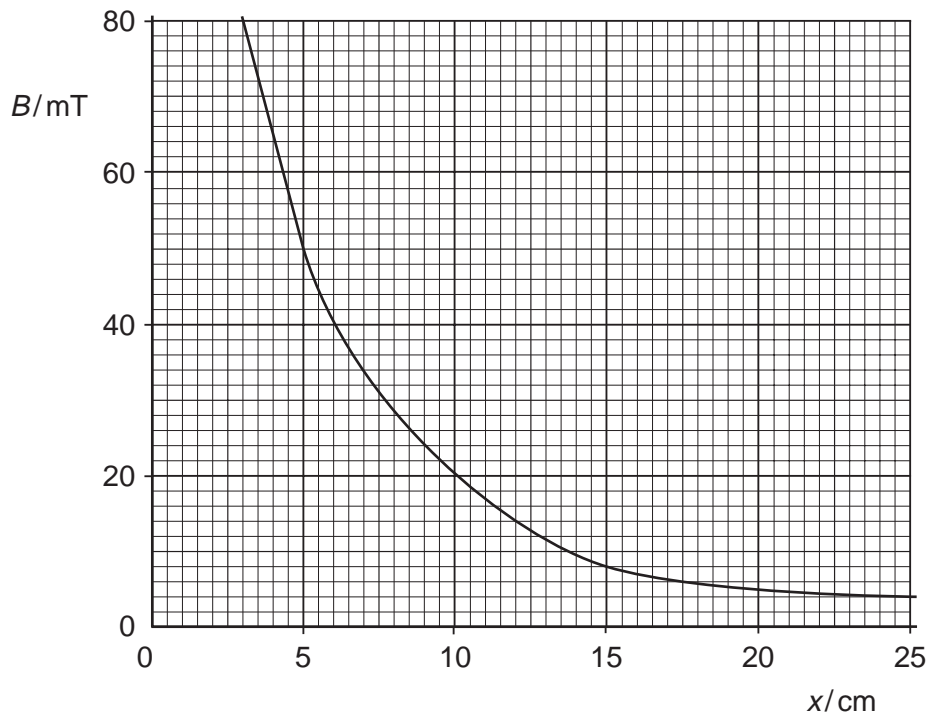

Fig. 4.2
The average magnetic flux density B through the coil varies with the distance x between the face of the magnet and the plane of the coil as shown in Fig. 4.2.
- (a) (i) The coil is 5.0 cm from the face of the magnet. Use Fig. 4.2 to determine the magnetic flux density in the coil.